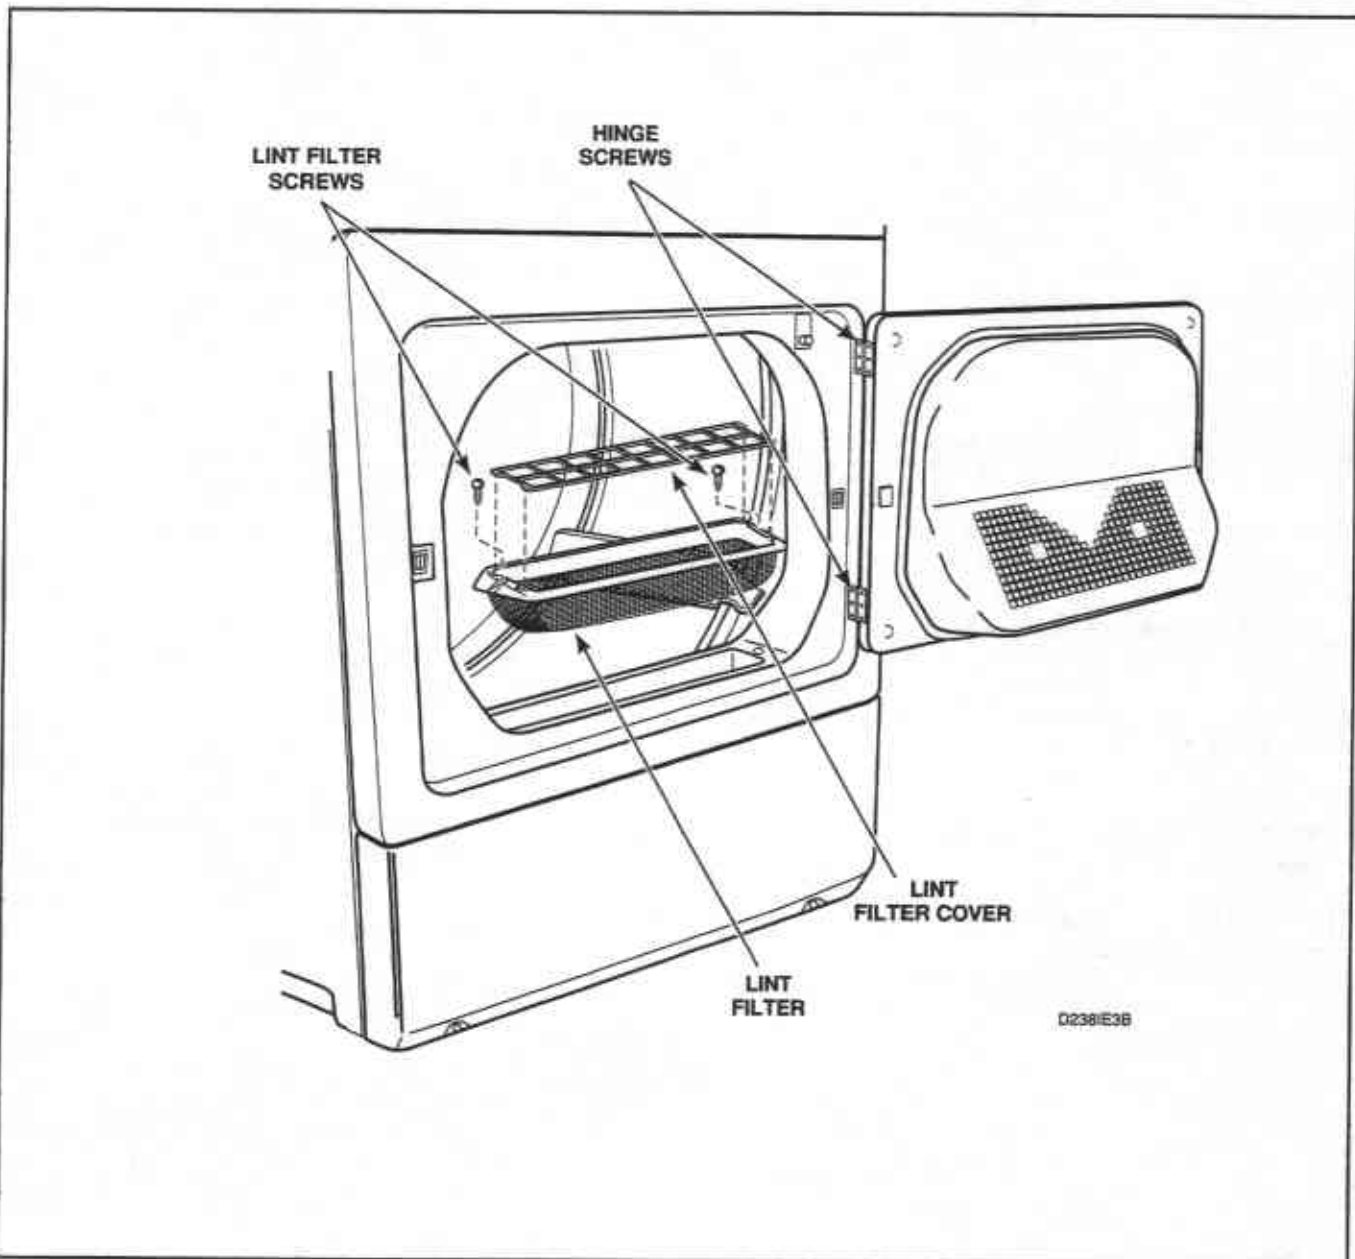

Figure 8
10. LINT FILTER (Figure 8)
- Remove four screws holding door assembly to hinges, *Figure 8*.
- Remove screws holding loading door to hinges, *Figure 8*.